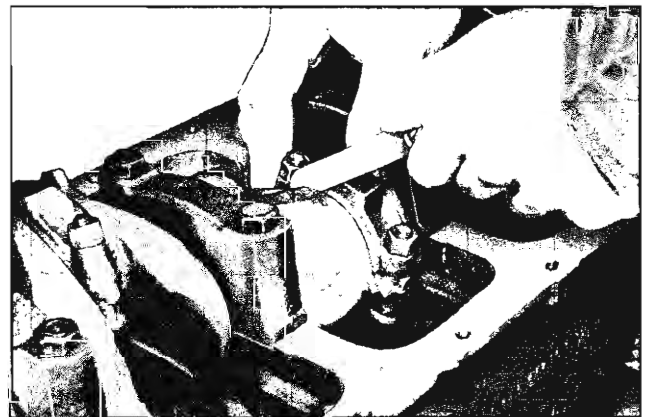

Fig. 54—Check Connecting Rod Side Clearance
- Check connecting rod end clearance between connecting rod cap and side of crankpin (fig. 54). See engine specifications for clearance.